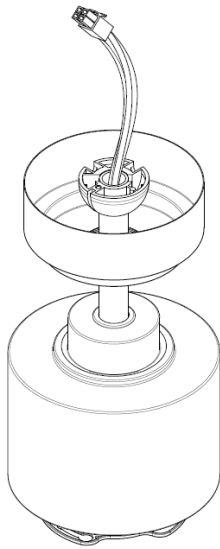

Fig. 4
- Lift fan assembly onto mounting bracket. Fig.4